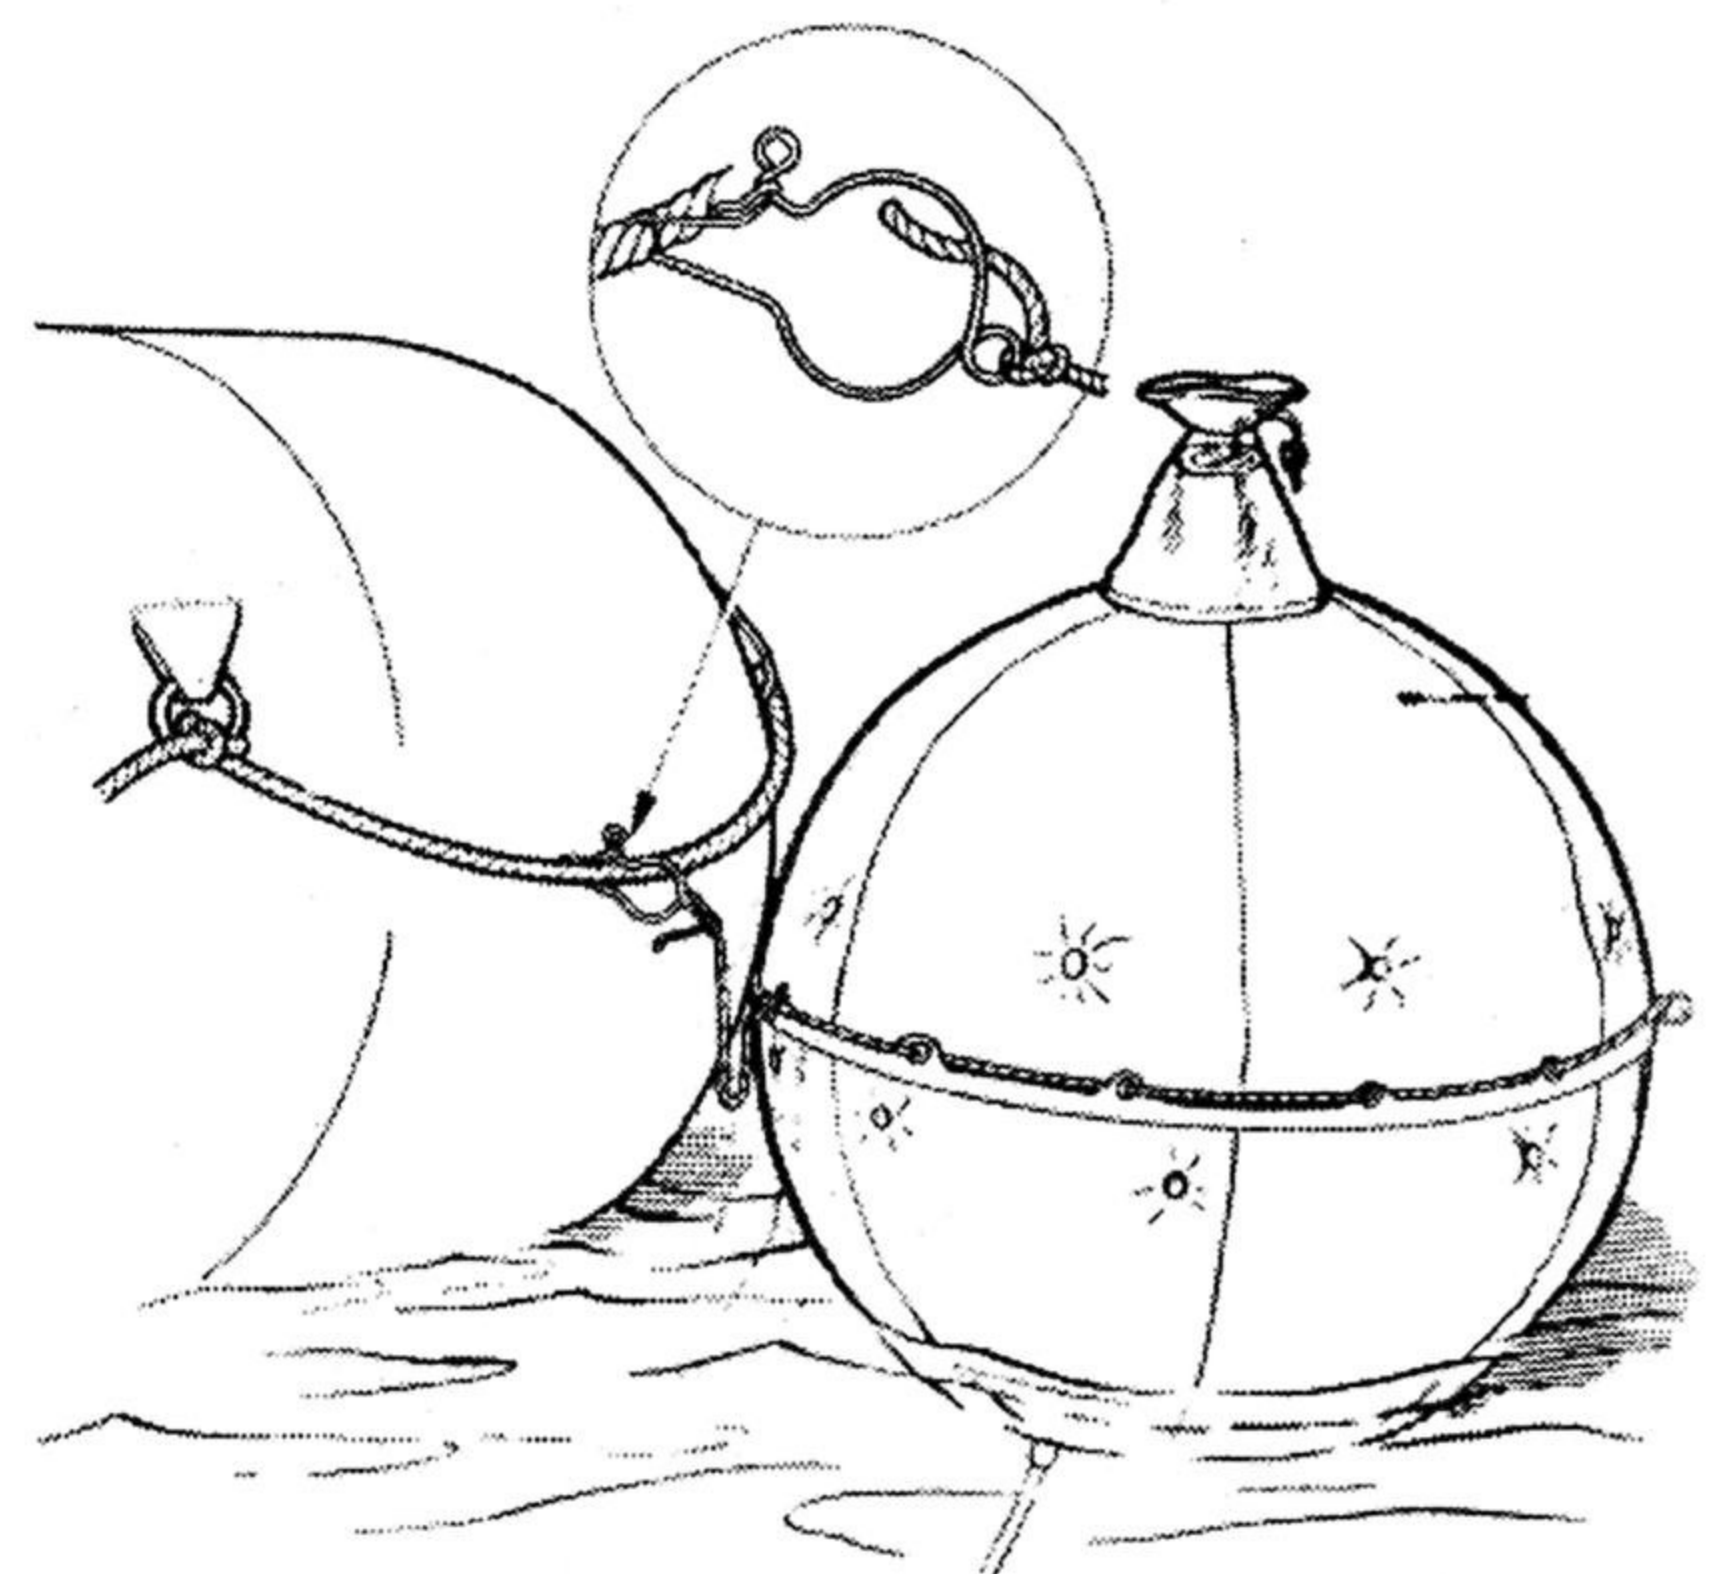

Fig. 11. Attachment of Still to dinghy
34. Attach the towing line to a convenient position on the dinghy life-line (fig. 11) so